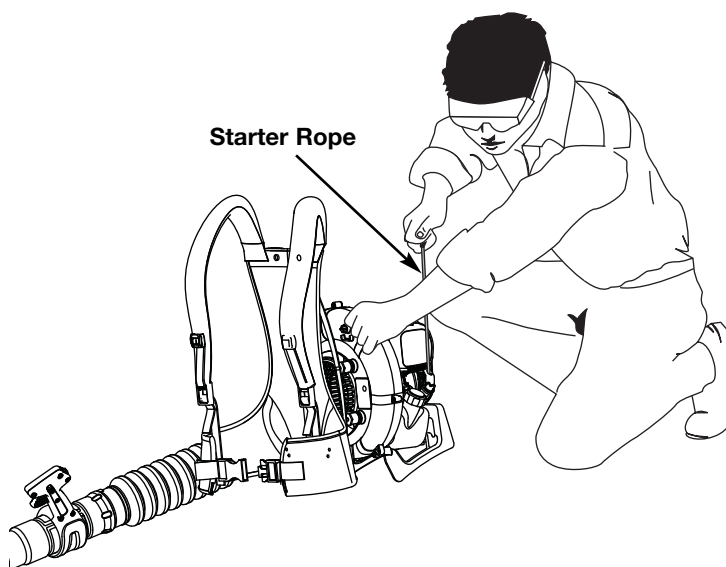

Fig. 16
**WARNING:** Avoid accidental starting. Make sure you are in the starting position when pulling the starter rope (Fig. 16). To avoid serious injury, the operator and unit must be in a stable position while starting. To avoid serious personal injury, make sure that the blower tube is locked in place or firmly installed.
5. Crouch in the starting position and pull the starter rope out about 4 inches, then pull 4 times in smooth and rapid pulls to start engine (Fig. 16).